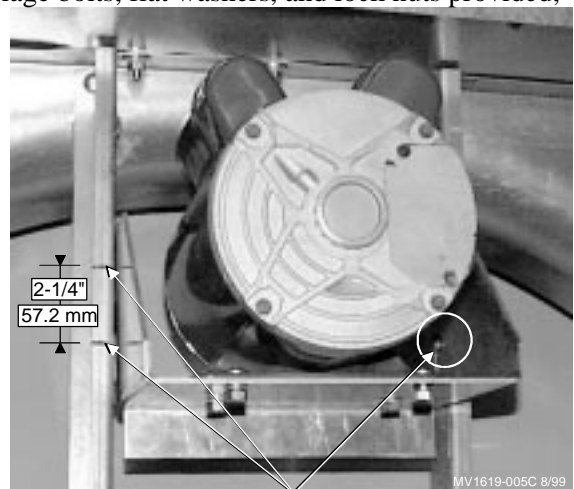

Figure 4. Bolt Hole location for Bracket
9. Apply tension by moving the U-Mount Motor Bracket upward and re-tighten bolts to secure. **See Figure 4**. See Decal on side of Bracket for belt tensioning diagram.